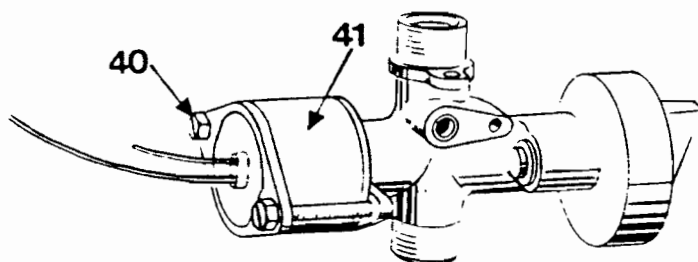

FIG. 17
Remove the two long screws (40) and the spacer (41) Fig. 17.